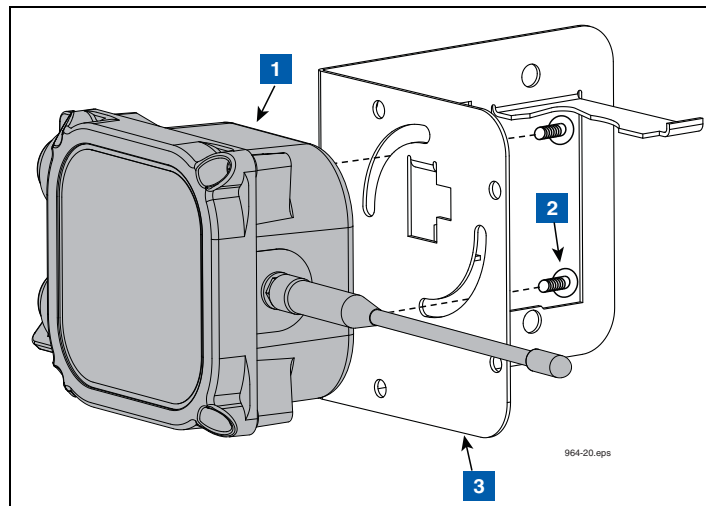

Figure 19. Attaching Transmitter To Battery Support Bracket
3. Using two taptite screws from the kit, attach the Transmitter housing to the side of the battery support bracket that has the two circular slots (see Figure 19). Do not tighten screws at this time.
LEGEND FOR NUMBERED BOXES IN Figure 19